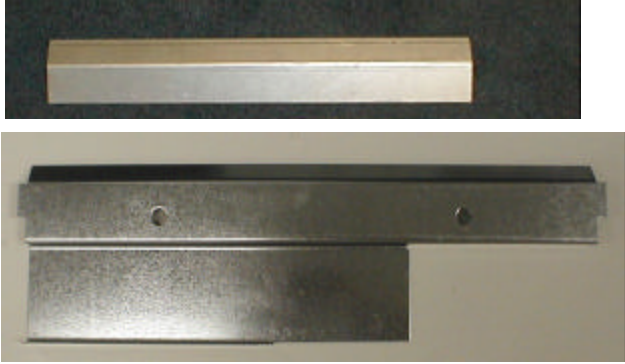

Figure 1
2. Install shim angle (610,070,05x.x3) on top of can stop shim (805,701,14x.x1). (See figure 1, page 2.)